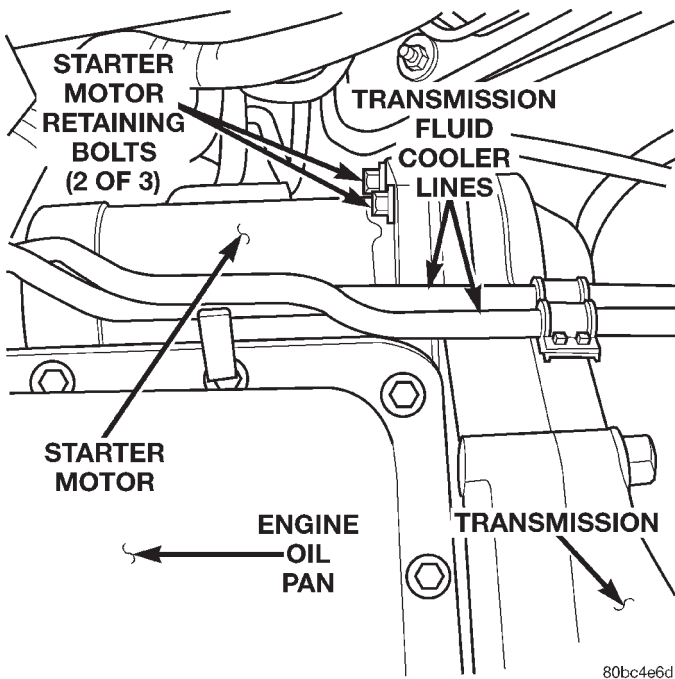

Fig. 15 Starter Motor Position & Orientation
(61) Remove the starter motor retaining bolts and remove the starter from the vehicle (Fig. 15).